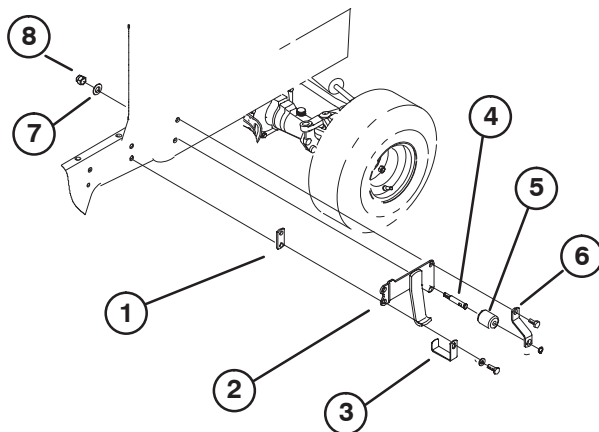

Figure 12
1. On Reelmaster 5500 models equipped with cutting unit baskets, the side cutting unit tipper brackets (Fig. 12) must be removed and re-installed with roll bar. Refer to Installation Instructions for Basket Tipper Kit.